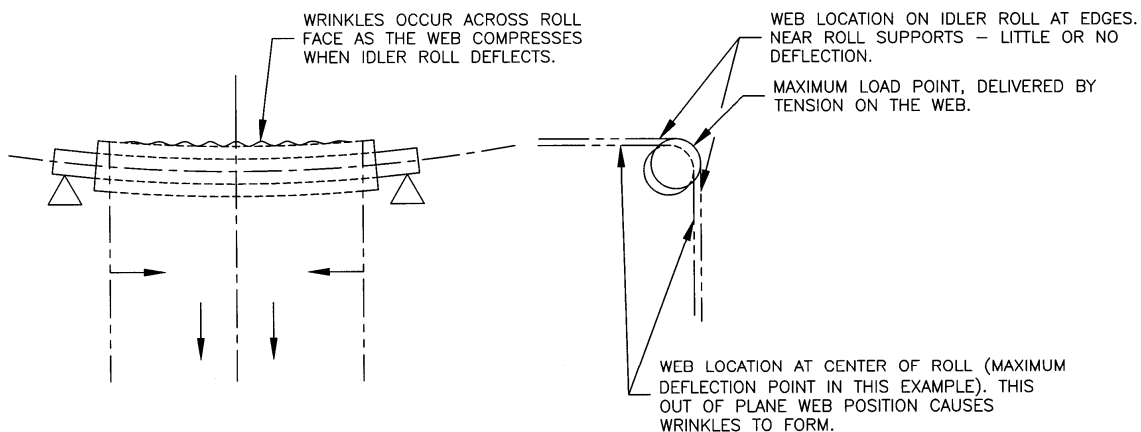

FIGURE 7
- Idler roll buckling or deflection (figure 7) will cause wrinkles because the web will actually deflect out of its normal running plane at different intervals across the web width. This out of plane condition will occur wherever the greatest amount of deflection (usually the center) is in the idler roll. When roll deflection occurs, webs will wrinkle because they will compress toward the deflection point.